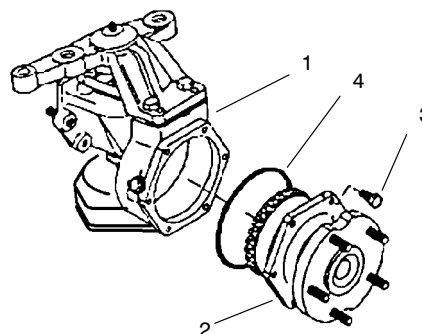

Figure 4
3. Remove the axle cover mounting screws. Remove the axle cover from the axle case as an assembly (Fig. 4).